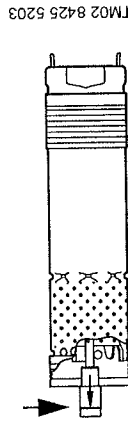

Fig. 10 Pump shaft position
2. Pull the pump shaft out to the position shown in fig. 10.